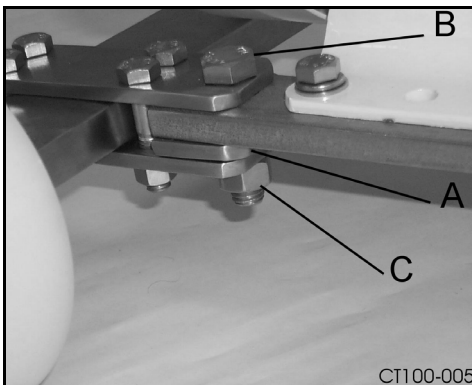

**Figure 3 - Blocking and Sleeve**
4. Place the pump on the blocking that is approximately 3 inches high. (Figure 3, item A).
5. Install the two sleeves (Figure 3, item B) in the leg brackets on the pump and lock in place using the set screw (Figure 3, item C).